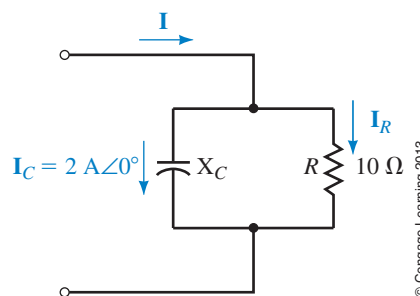

FIGURE 18-112
44. Assume that the circuit of Figure 18-112 has a current I with a magnitude of 3 A: